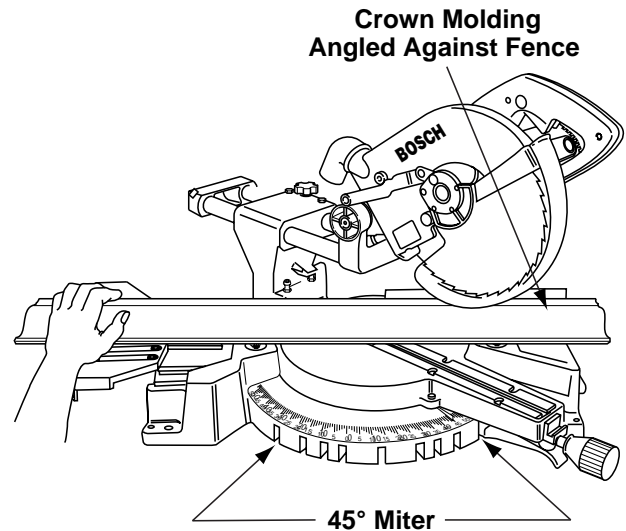

Figure 35. Crown Molding Angled to Table and Fence
2. Set the miter angle using Chart 1. Tighten the miter lock knob (Figure 35).